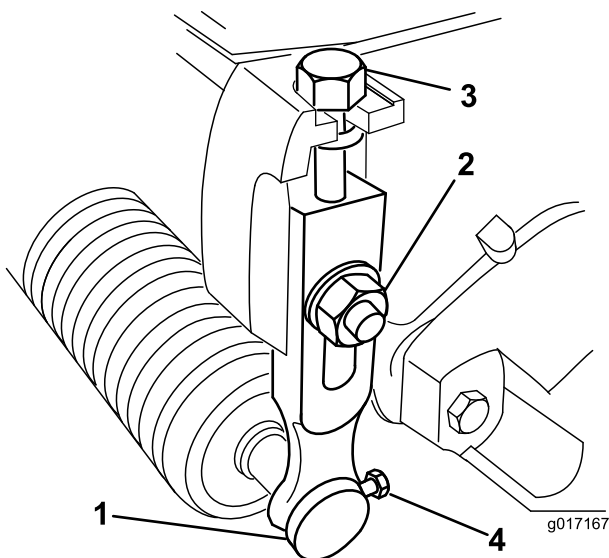

Figure 1
2. Loosen the screws securing the front roller shaft to the height-of-cut arms (Figure 1).
3. Remove the front roller (Figure 1).
4. Remove the plow bolts, washers and nuts securing the height-of-cut arms to the cutting unit side plate (Figure 1).
6. Remove the adjusting screws from the height-of-cut arms (Figure 1).